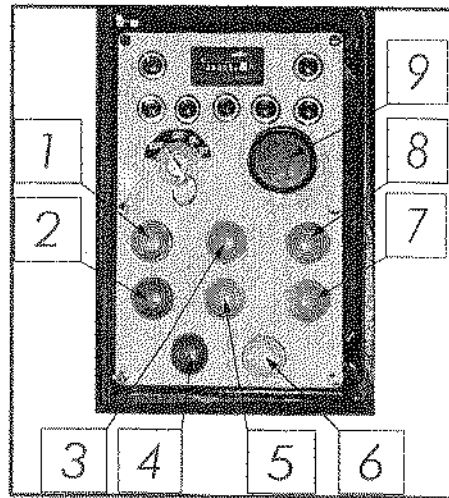

Figure 7-4. Push-buttons
7.3.1 Push-buttons (figure 7-4)